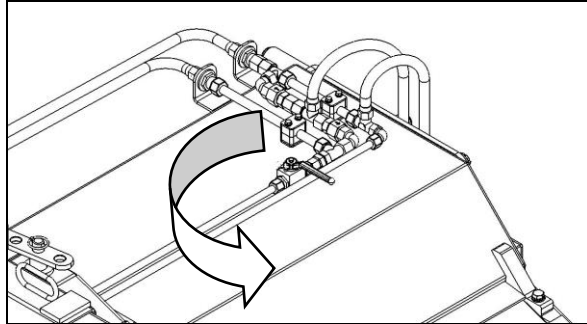
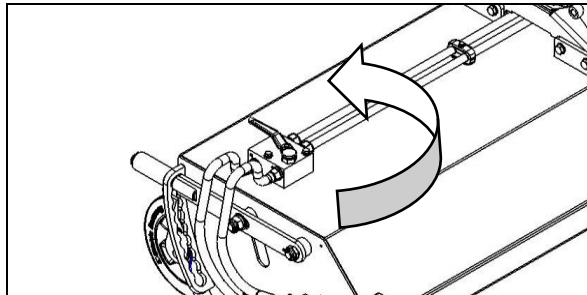

Fig. 4.34
Fig. 4.35
- Close the shut-off valves to the hydraulic cylinder of the dirt hopper's emptying function (Fig. 4.34) and also the side brush hydraulic motor (Fig. 4.35).
- The support wheels (1) must face the rear.